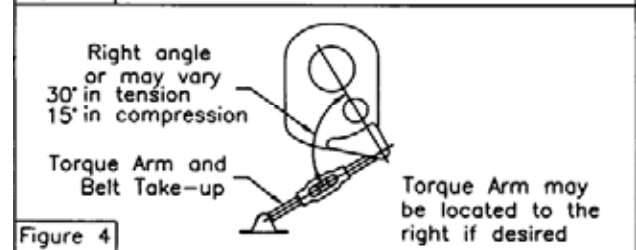

Figure 4
- Install torque arm fulcrum on a flat and rigid support so that the torque arm will be approximately at right angles to the center line through the driven shaft and the torque arm anchor screw. (See Fig. 4) Make sure that there is sufficient take-up in the turnbuckle for belt tension adjustment when using V-belt drive.